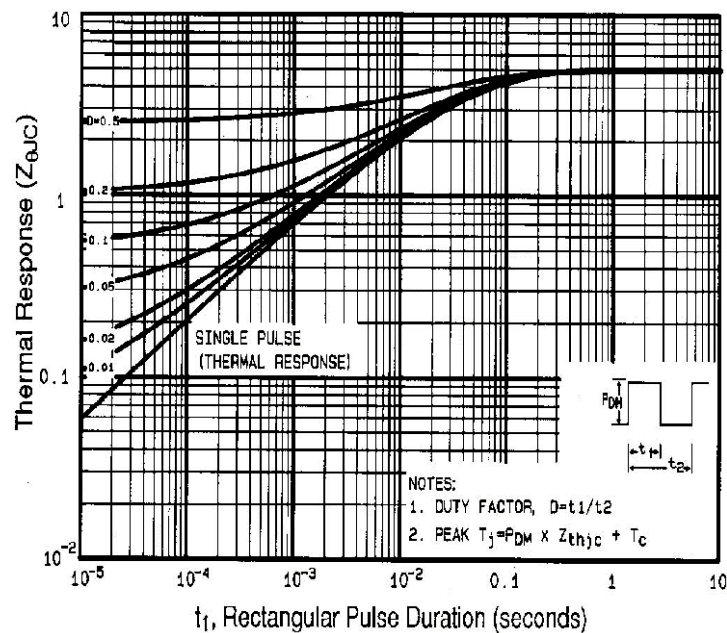

Fig. 12 - Maximum Effective Transient Thermal Impedance, Junction-to-Case
- $V_{DD} = 50\text{ V}$ , Starting  $T_J = 25\text{ }^\circ\text{C}$ ,  $L = 62\text{ mH}$ ,  $R_g = 25\text{ }\Omega$ ,  $I_{AS} = 2.2\text{ A}$  (see fig. 12).